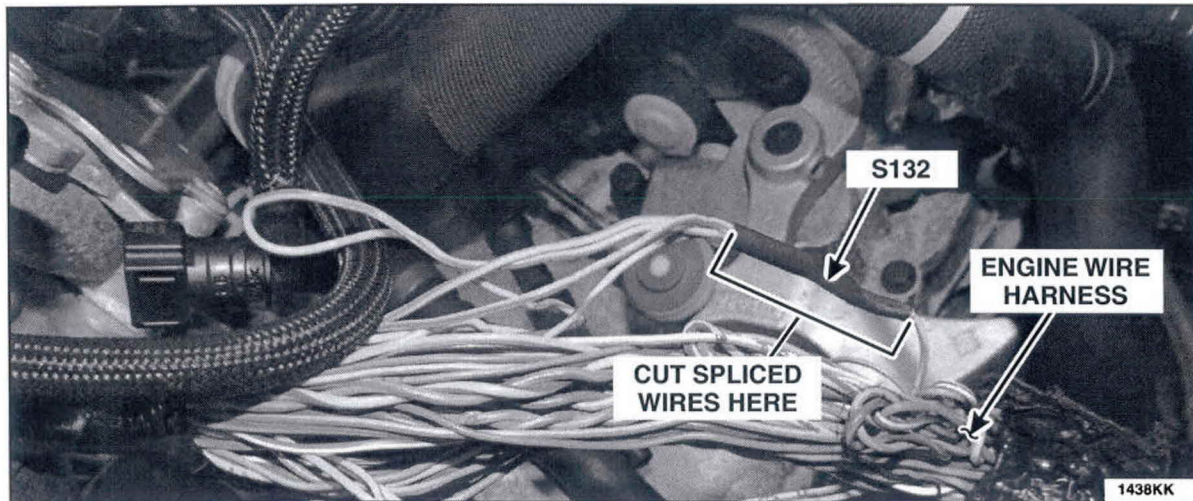

FIGURE 13
15. Cut the wires on each side of the splice S132 and strip off 19 mm (0.75 in) of insulation from each of the Yellow/Green wires. See Figure 13.